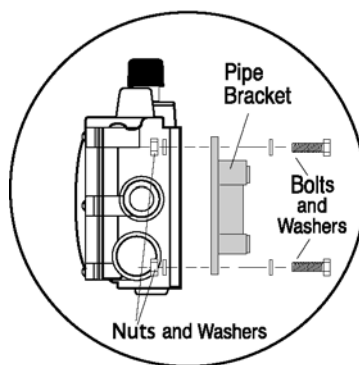

Figure 2A
2. Install the pipe bracket to the IM500 using two 1/4-20 UNC x 1 inch bolts; nuts and lock washers supplied. See Figure 2A.